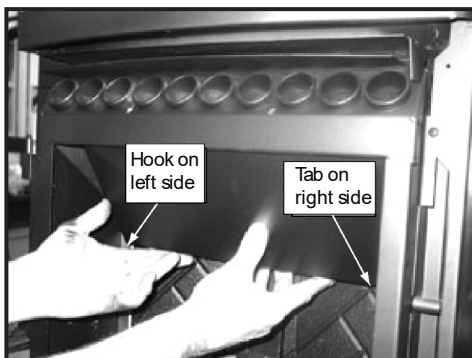

Figure 29.1
2. The top baffle has a hook on the bottom left side that rests on the top lip of the cast brick. There is a tab on the bottom right side that hooks into the side bracket. Remove the top baffle by first pulling the baffle forward until back edge drops down. Then slide baffle back until the front edge clears the shelf that it had been resting on (**Figure 29.1**).
3. Pull the right edge of the brick forward and slide the brick into the notches both top and bottom of right bracket (**Figure 29.1**).